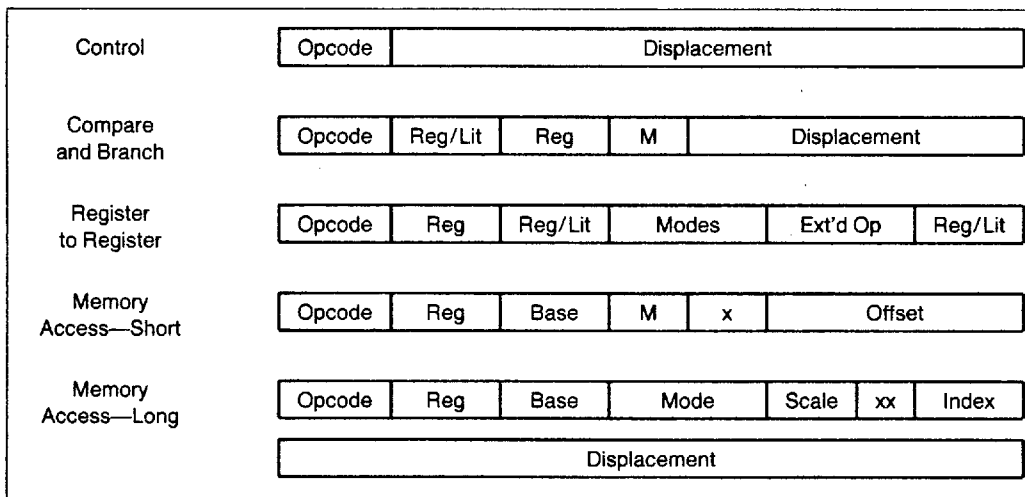

Figure 4. Instruction Formats
**4. Simple Instruction Formats.** All instructions in the 80960XA are 32-bits long and must be aligned on word boundaries. This alignment makes it possible to eliminate the instruction-alignment stage in the pipeline. To simplify the instruction decoder further, there are only five instruction formats and each instruction uses only one format. (See Figure 4.)